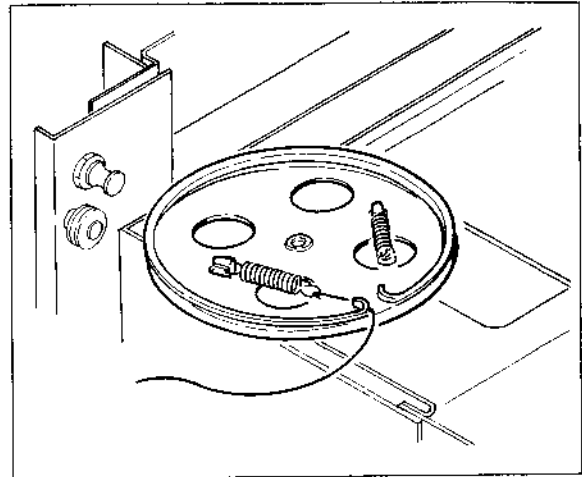

Fig. 2-4 Tuning-capacitor drive-drum installation
3. Install the tuning-capacitor drive-drum as illustrate in Fig. 2-4, then tighten the two set screws of the drive-drum.
4. Tie the end of the cord to a spring and hook it to the appropriate tab of the drum. Hook a spring to the other tab of the drum, as shown in Fig. 2-4.
5. Wrap the cord a half turn clockwise along the groove of the drum. See Fig. 2-4.